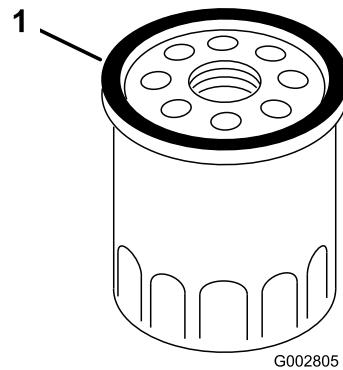

Figure 27
7. Use your finger to coat the gasket on the new filter with oil (Figure 27).